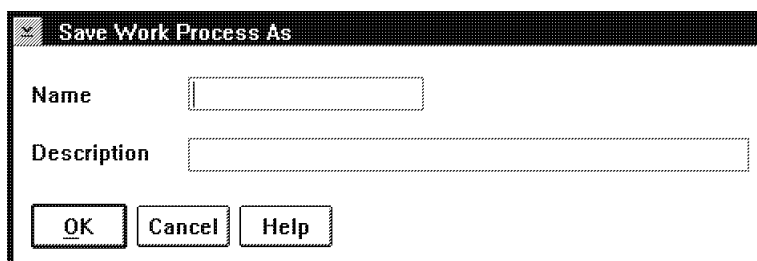

Figure 43. Save Work Process As Window
1. Select **Save work process as** from the **Work process** pull down. You see the Save Work Process As window shown in Figure 43.